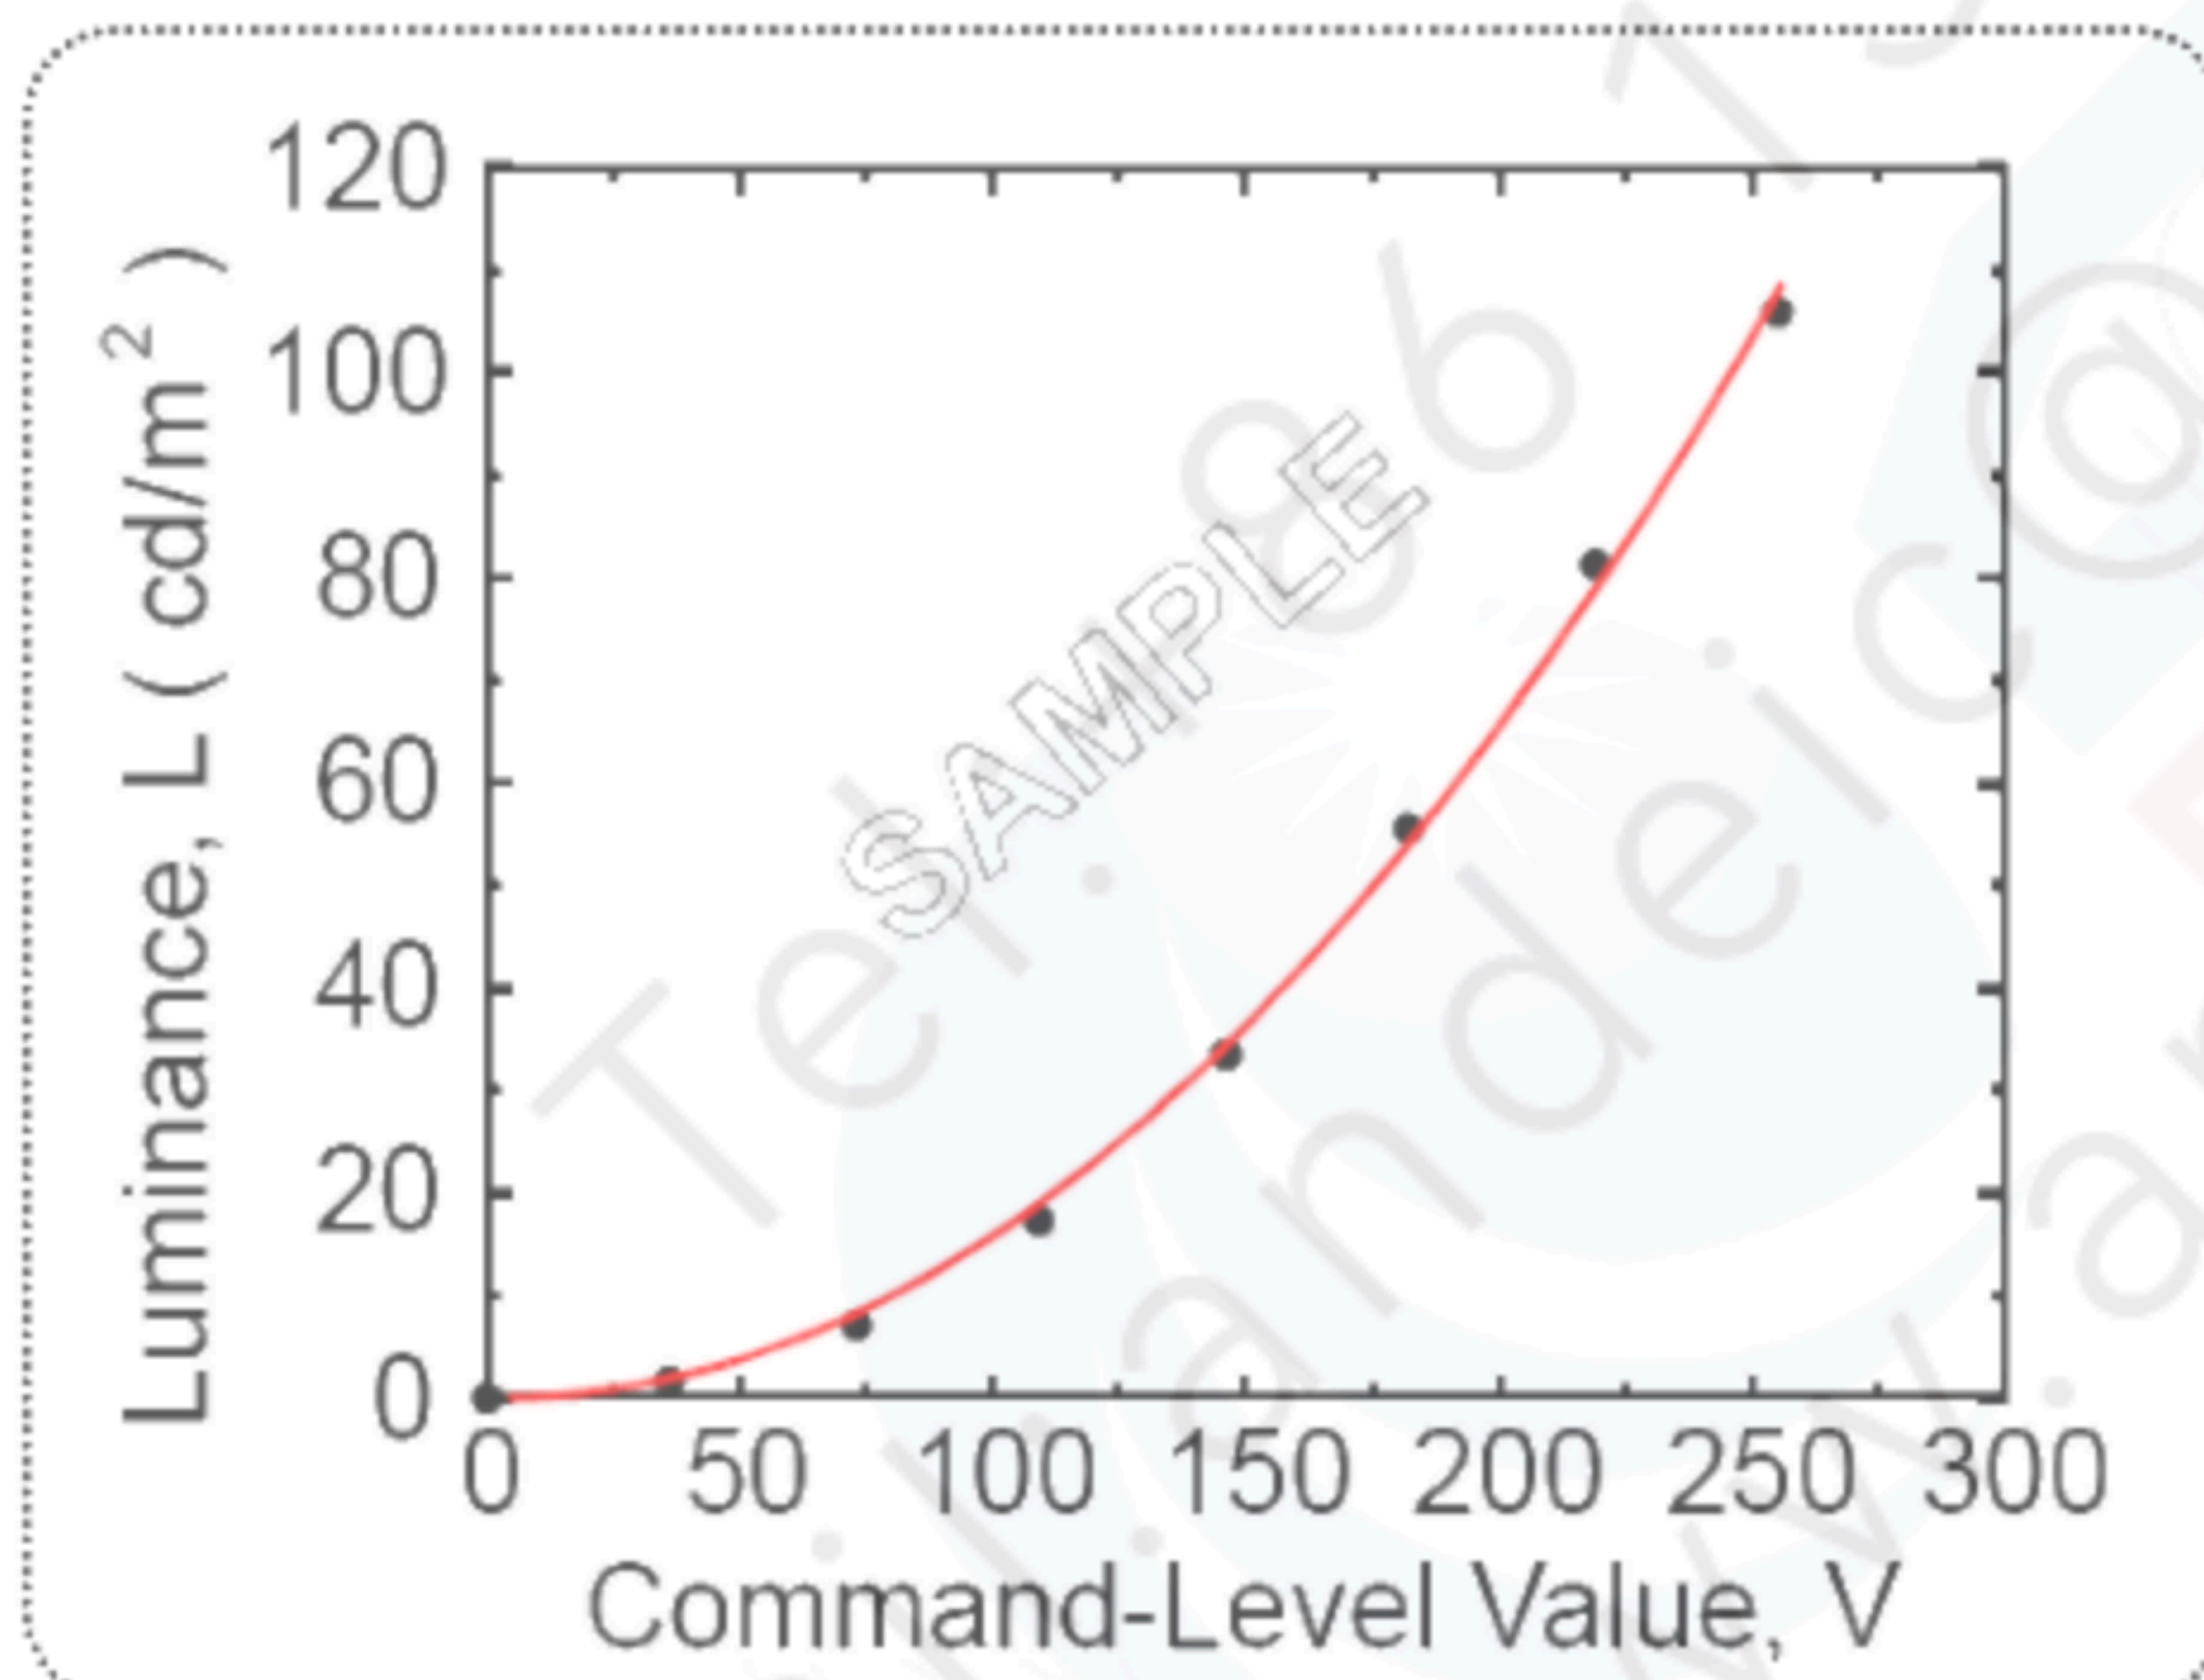
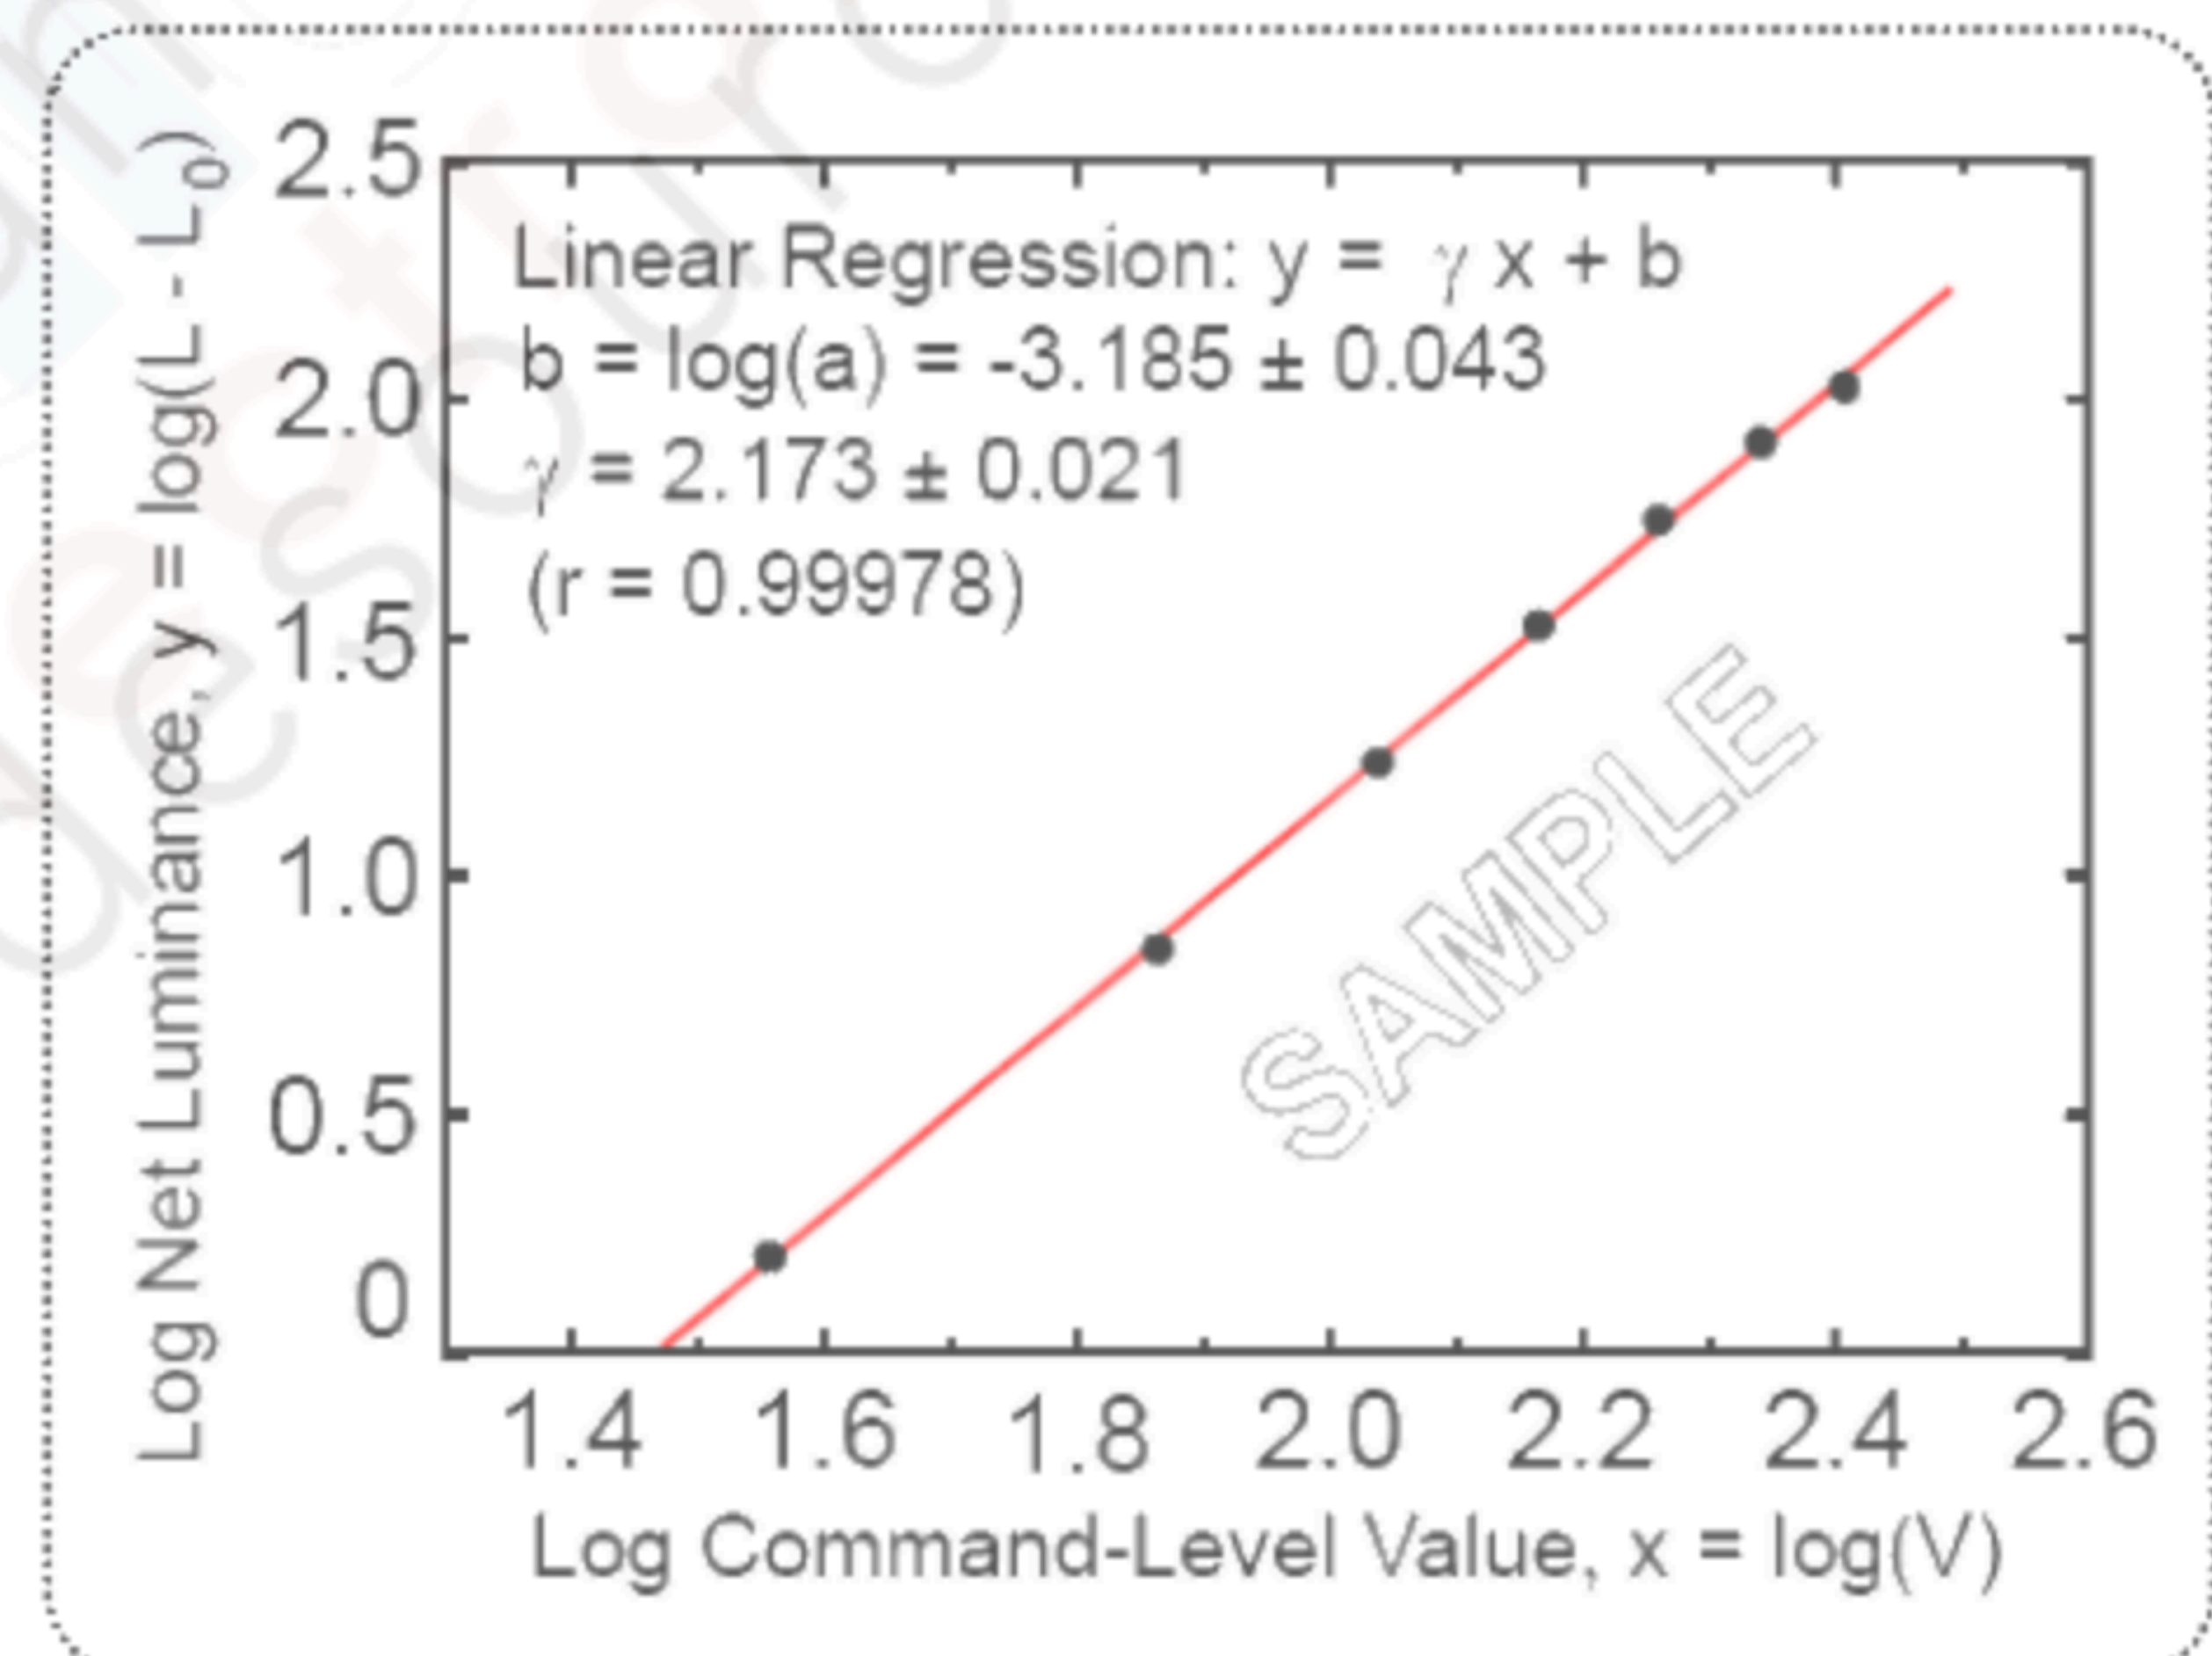

FIG.11 Sample Luminance vs. gray scale (using a 256 bit gray scale)
FIG.12 Sample Log-log plot of luminance vs. gray scale
6. GSR is the rate of gamma shift at up, down, left and right 60 degree viewing angle compare with center gamma. For more information see FIG.11 and FIG.12 **(By EZ Contrast)**
The GAMMA we calculate from the log-log representation (FIG.11)